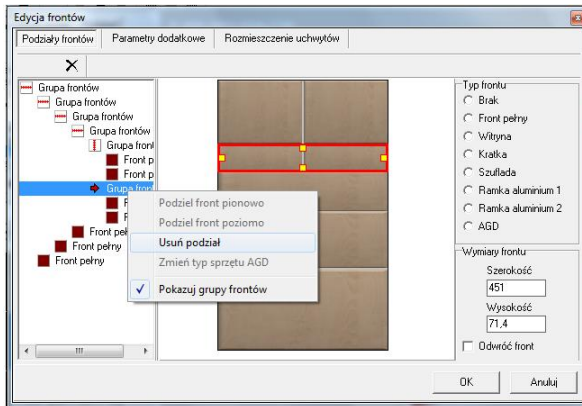
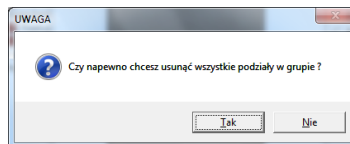

Fig. 175 – deleting front division
Fig. 176 – request for confirmation that the front division is to be deleted
- to delete a division mark a particular group of fronts on the list, right-click and select the **Delete division** option (Fig. 175), and then click **Yes** (Fig. 176).